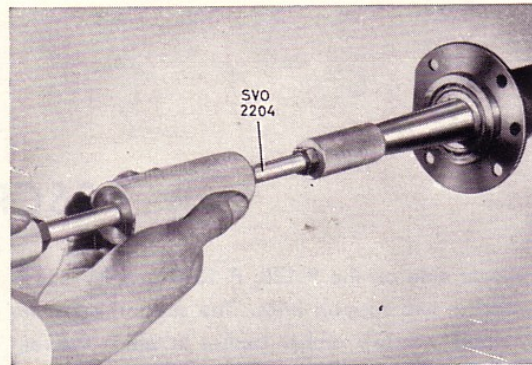
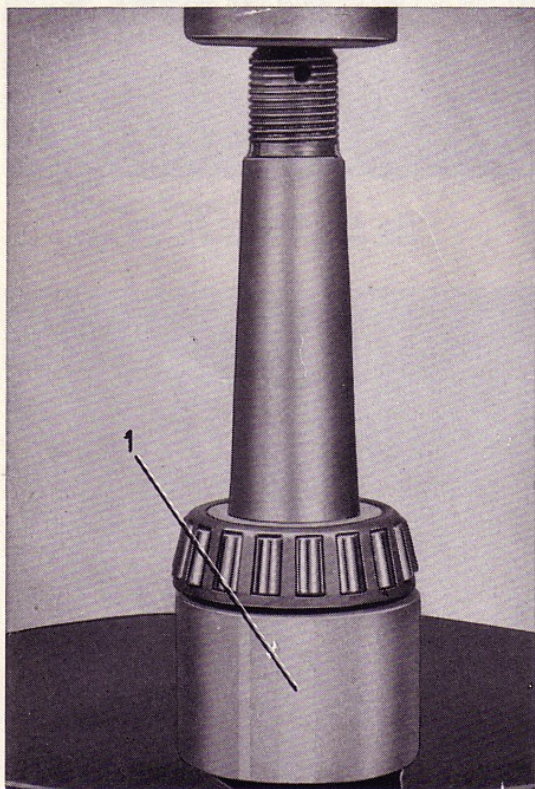

Fig. 2. Removing drive shaft.
Fig. 10. Removal of drive shaft bearing.
2. Pull out the drive shaft, Fig. 2. Use puller SVO 2204.
2. Pull out the drive shaft, Fig. 2. Use tool SVO 2204. Check or replace the oil seal.
3. Press off the bearing, see Fig. 10. Use tool SVO 1806 under the bearing. Fit the new bearing by using tool SVO 1805, see Fig. 30.
3. Remove the drive shafts (13). Use puller SVO 2204, see Fig. 2. If necessary, press out the roller bearing (15) from the shafts. Use tool SVO 1806 as a support, see Fig. 10.